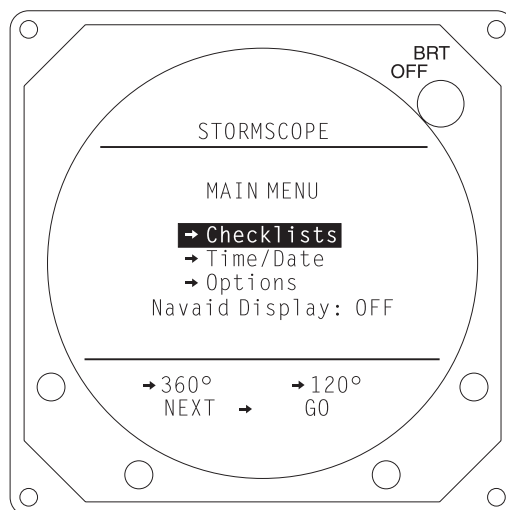
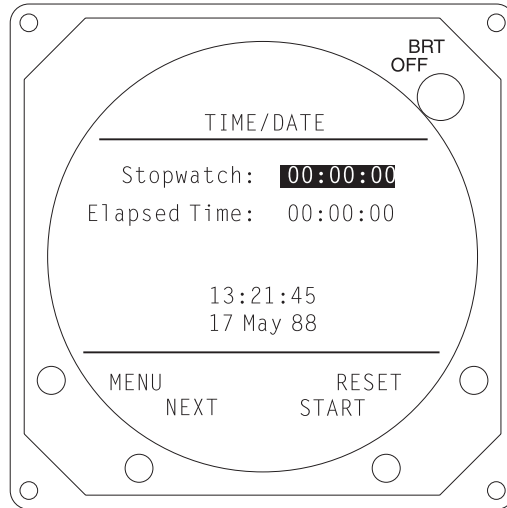
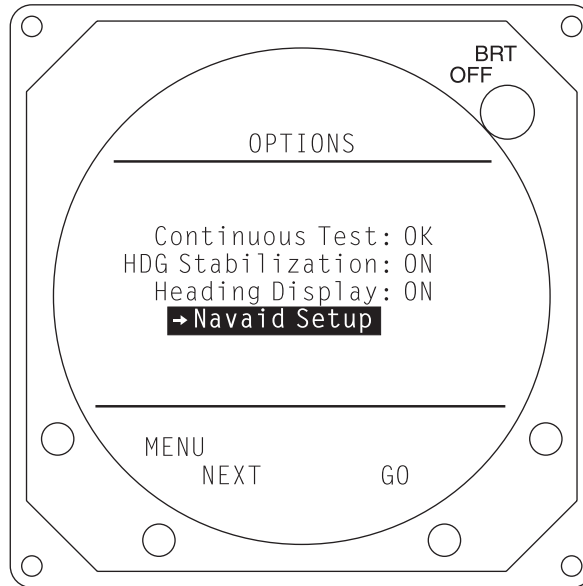

Figure 3-3. Main Menu
Figure 3-7. Date/Time
Figure 3-8. Options
2. If no faults are detected, at completion of the self-test an “ALL TESTS ARE OK” message will be displayed and the system will advance to the main menu (see figure 3-3).
- **MENU** - returns to the Main Menu (figure 3-3).
The TIME/DATE mode displays the time (hours, minutes, & seconds), date, and includes a simple stopwatch and elapsed timer. The TIME/DATE display is shown in figure 3-7. To access the TIME/DATE display, select Time/Date from the Main Menu (figure 3-3).
The OPTIONS mode displays the results of the continuous self-test, allows the operator to initiate a complete self-test and allows the user to disable the heading stabilization and heading display features. Navaid Setup, if installed, is also selected from this display. The OPTIONS display is shown in figure 3-8. To access the OPTIONS display, select Options from the Main Menu (figure 3-3).
- **EXIT** - returns to the Options Menu (figure 3-8).